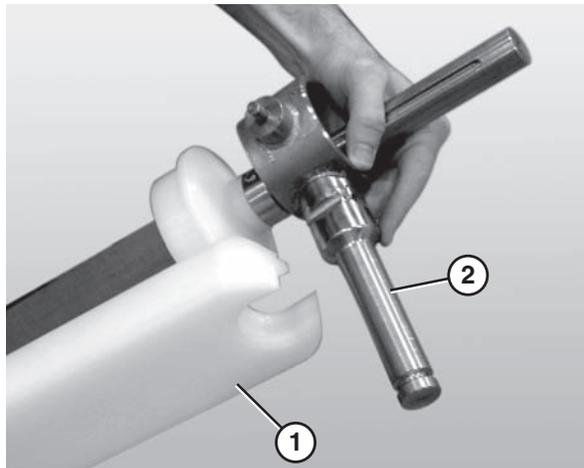

Figure 83
8. Attach the guard bar (**Figure 83, item 1**) to the bearing / motor mount bracket shafts (**Figure 83, item 2**).